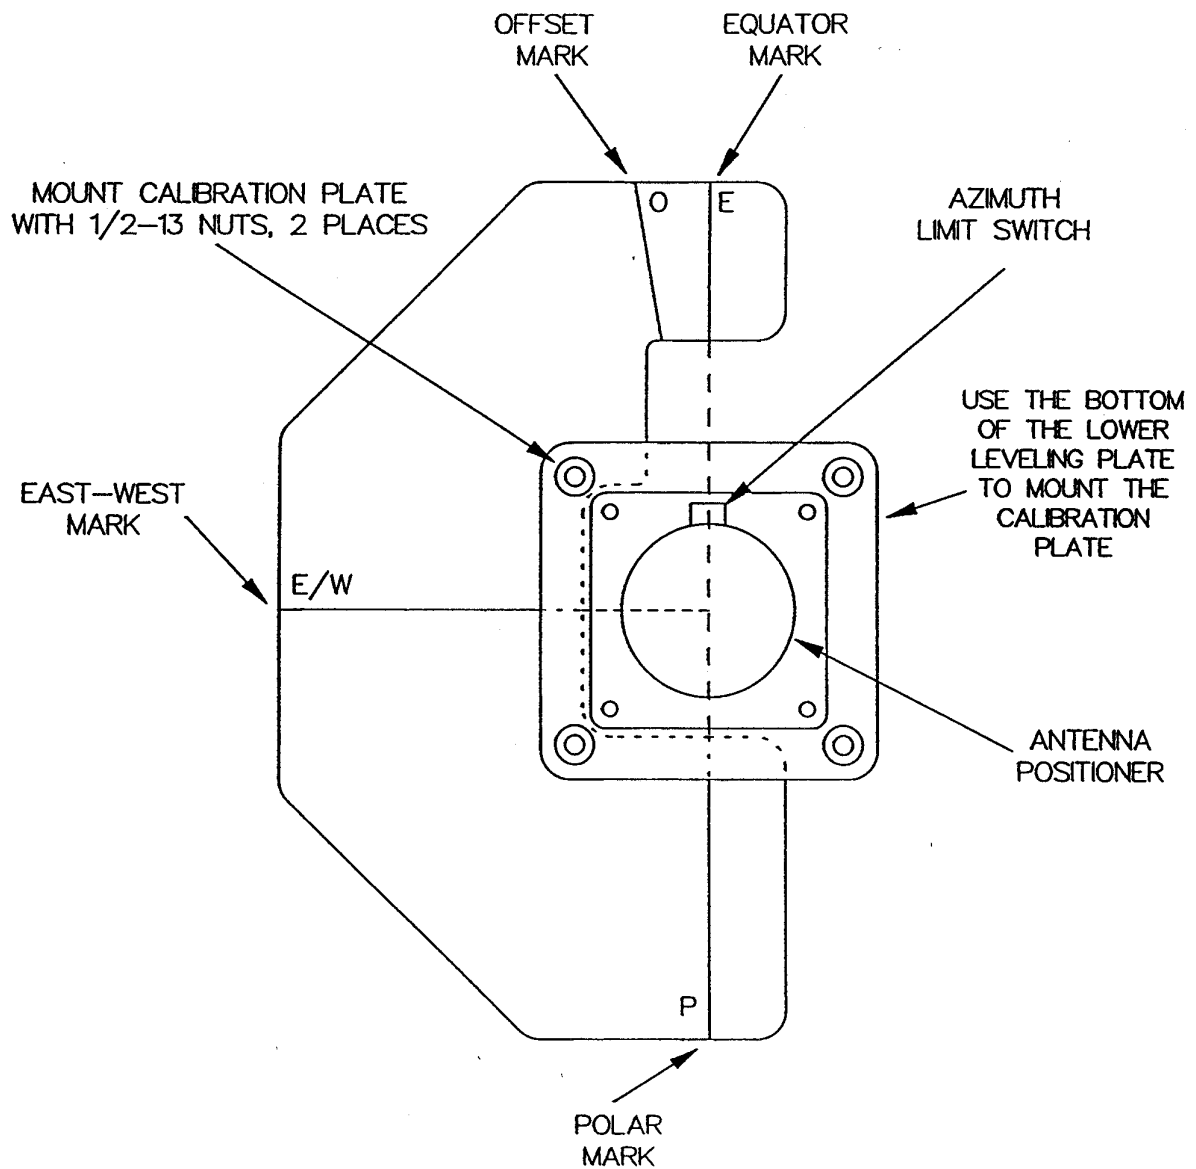

Figure B-2, Alignment Fixture
- (C) Next, move the positioner manually to 90° elevation. Then install the supplied large calibration plate on the bottom of the positioner by placing it over two of the four large mounting bolts on the bottom of the lower leveling plate using the two extra 1/2-13 nuts supplied in the calibration kit. The calibration mark labeled (E) must be facing the Equator, which will place the mark labeled (P) toward the Pole of the earth for the particular hemisphere in which the installation is located. (Please refer to Figure B-2 - Alignment Fixture).